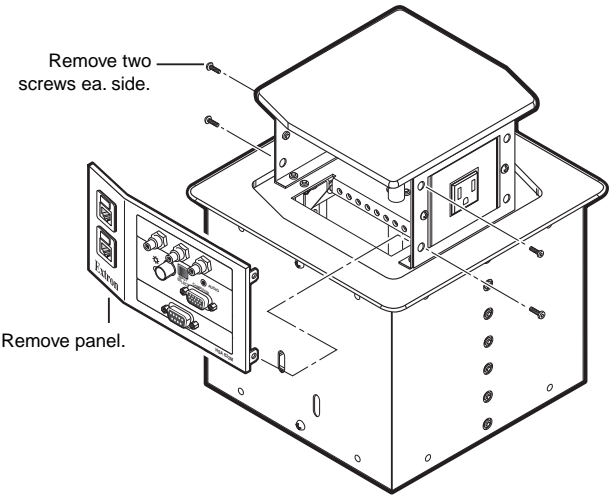

Figure 3-2 — Removing the AAP/RJ-45 panel
2. Remove and retain the top and bottom screws on the right and left sides of the AAP/RJ-45 panel (figure 3-2). Lift the panel away from the enclosure as far as the connected cables allow and then allow the panel to dangle, supported by its connected cables.
1. Remove and retain the top and bottom screws on the right and left sides of the AAP/RJ-45 panel (figure 3-2). Lift the panel away from the enclosure as far as the connected cables allow and then allow the panel to dangle, supported by its connected cables.
3. For both AAP/RJ-45 panels, remove the top and bottom screws on the right and left sides of the panel (figure 3-2). Retain the screws. Lift the panels away from the enclosure as far as the connected cables allow and then allow the panels to dangle, supported by their connected cables.